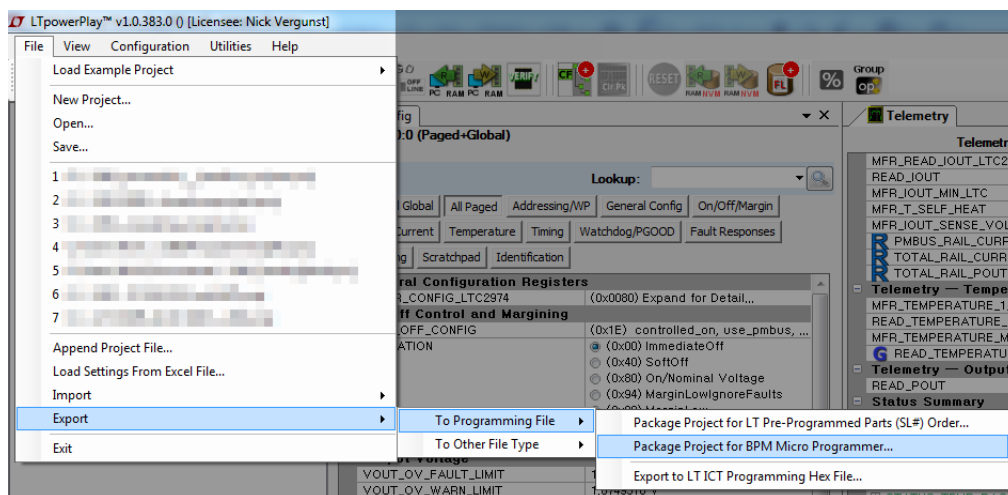

Figure 3. File, Export, To Programming File, Package Project for BPM Micro Programmer
- Under the menu, select “File, Export, To Programming File, Package Project for BPM Micro Programmer...” (See Figure 3)